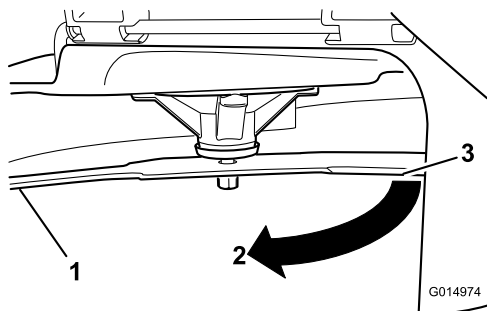

Figure 99
4. Rotate the same blade 180 degrees so that the opposing cutting edge is now in the same position (Figure 99).